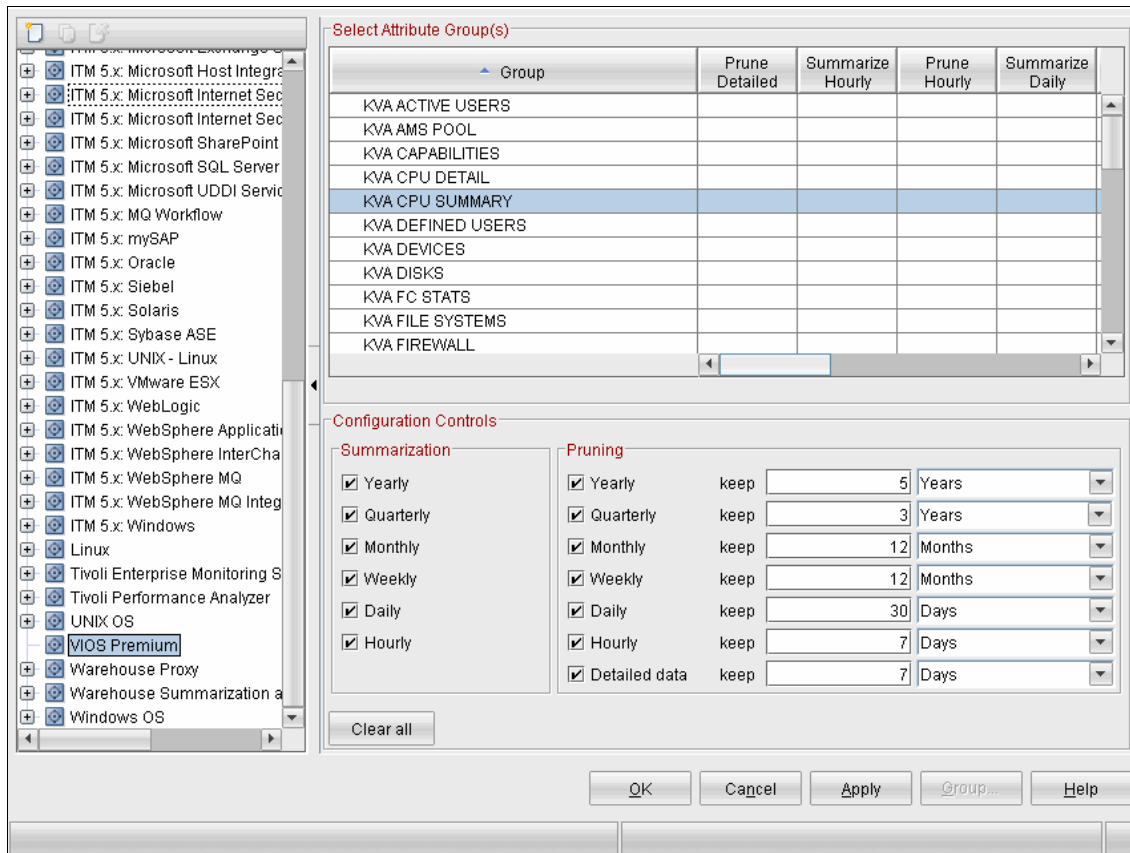

Figure 18-19 History Configuration summarization and pruning controls window
2. Specify the summarization and pruning controls as shown in Figure 18-19. Choose sensible retention periods for your historical data. Retaining too much data requires large amounts of disk space for your data warehouse.